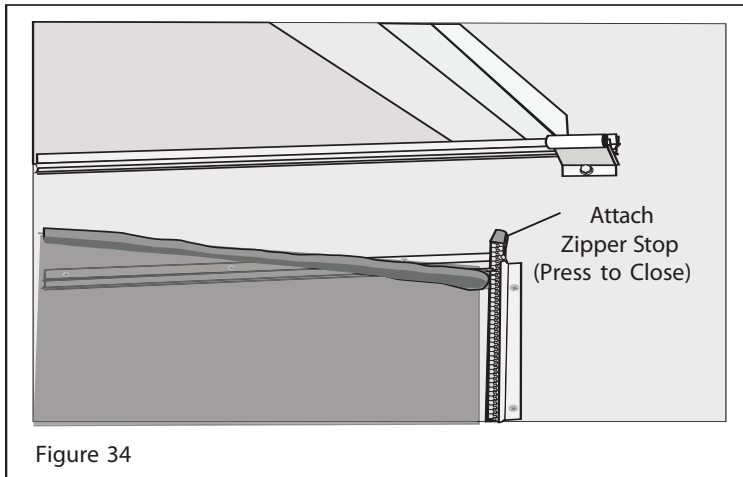

Figure 34
**STEP 50.** Unzip the side zipper about 12" inches and cut the zipper at the mark you previously made. Install one of the provided zipper stops on the zipper backing as shown in Figure 34. **NOTE: This is important so that the zipper slide cannot be pulled off the end of the newly trimmed zipper.**